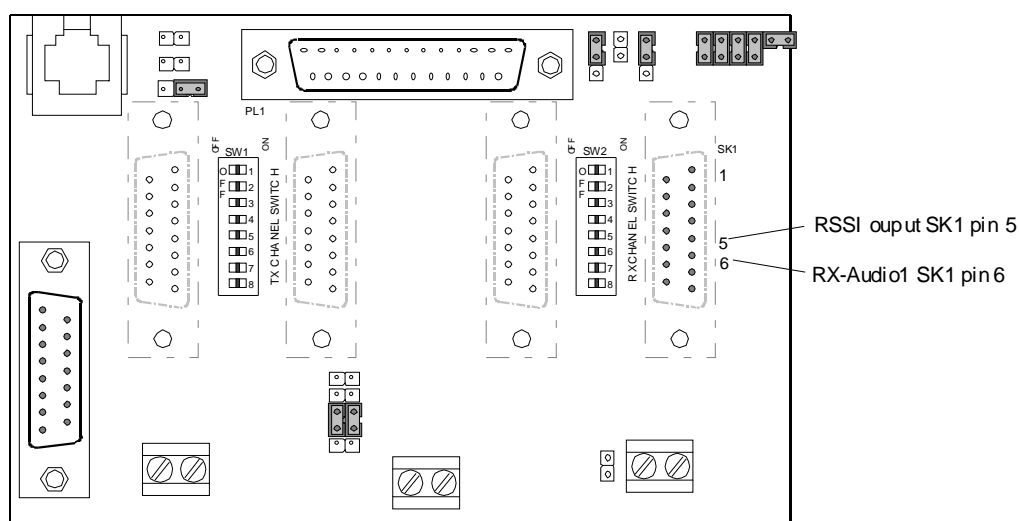

Figure 28 - T800-50-0001 Backplane and test pins location
- Adjust RV 345 (RSSI level) for T885, RV320 (RSSI level) for T855 to give 2.0V RSSI output at SK330 pin 2 (T855) or on backplane SK1 pin 5 when measured with a voltmeter (See Figure 28 for test point location).
- Adjust RV320 (RSSI level) to give 4.5V RSSI output at RSSI test point (near quad. Coil L360) or on backplane SK1 pin 5 when measured with a voltmeter (Figure 28 for test point location).